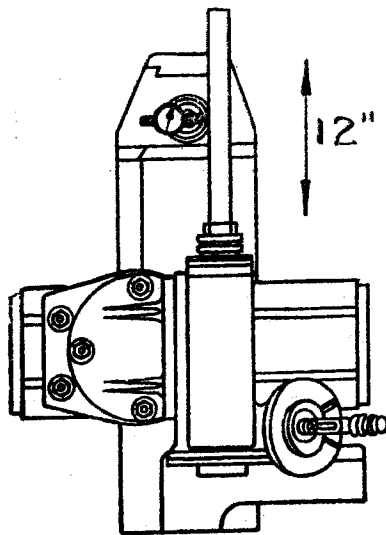

Fig. 3
- (b) **Adjustment for accurate work with the dividing head (Fig. 3).**